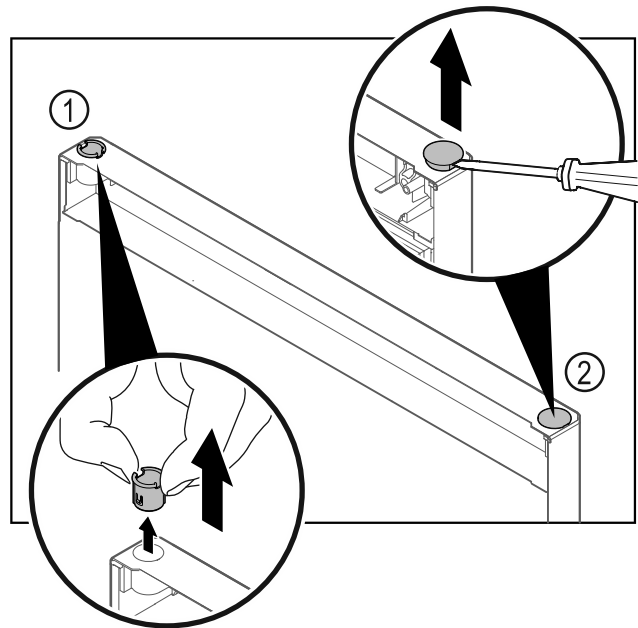

Fig. 26
- Pull out the hinge bushing Fig. 26 (1) with your fingers.
- Carefully lift the cover plug Fig. 26 (2) with a slotted screwdriver and pull it out.